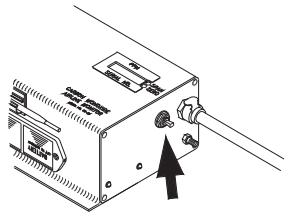

Figure 1
1. Place the “on/off/test” switch to the ON position (Figure 1).